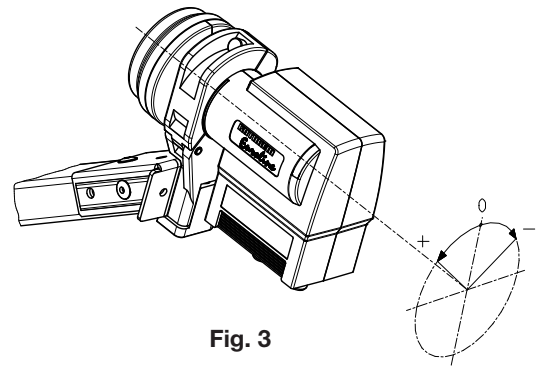

Fig. 3
4. Screw the feed system mounting tightly (Fig. 3).